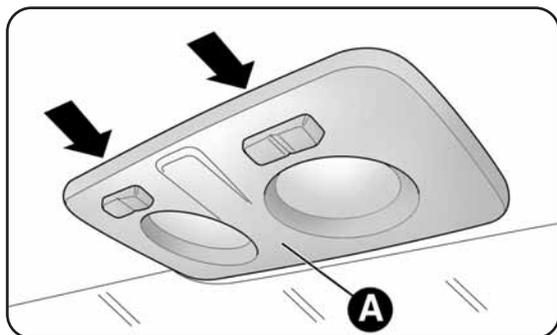
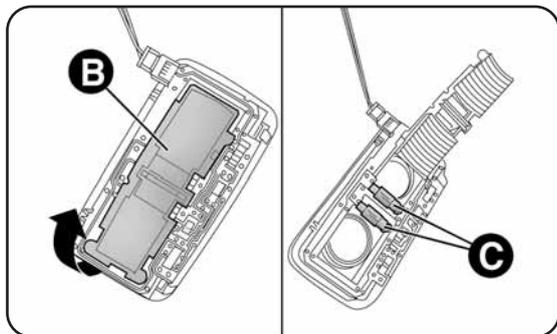

fig. 26
fig. 27
- work in the points shown by the arrows and remove light A-fig. 26;
- open the protection lid B-fig. 27;
- close flap B-fig. 27 and secure courtesy light A-fig. 26 into its housing, making sure that it clicks into place.